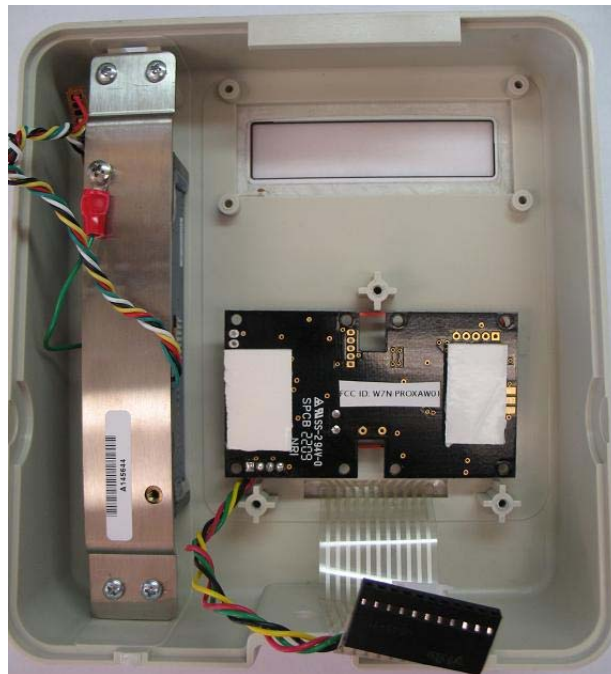

Figure 2.
2. Place the module tape side up as shown in Figure 2.